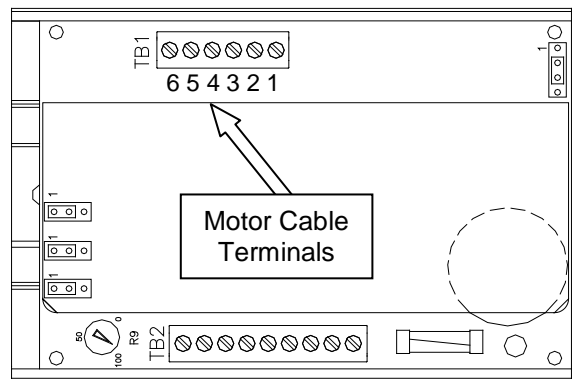

Figure 3-280. TM4500 Configuration
- c. On the right-rear corner of the drive are the motor cable terminals. Check continuity between terminals 1 and 2, 1 and 3, and 2 and 3. Also check continuity between terminals 4 and 5, 4 and 6, and 5 and 6 (refer to figure 3-280 for terminal identification). If all six tests for continuity pass, the motor is not faulty and other troubleshooting techniques need to be followed. (Refer to **(Pressure Jaw and Film Feed Motor Controllers** for information on how to check the stepper drive).